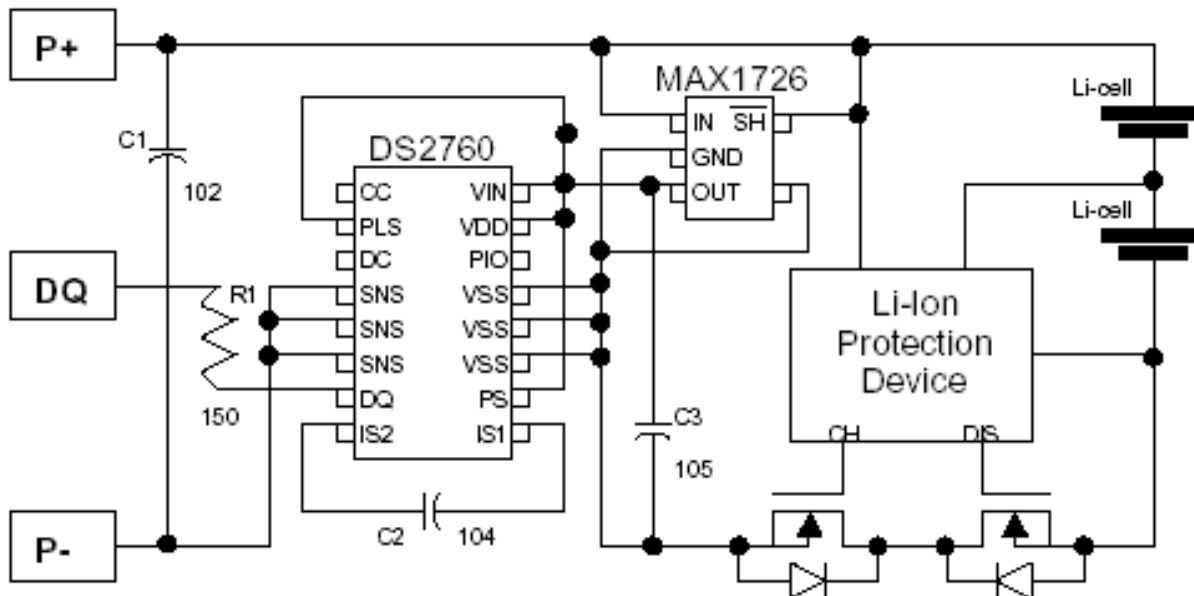

Figure 1. Example Schematic of the DS2760 in a 2-cell Li-Ion/Polymer Battery Pack
The schematic of Figure 1 illustrates a possible use of the DS2760 in a multi-cell application. The passives connected to the DS2760 are necessary for proper filtering and ESD enhancement, as indicated in the DS2760 datasheet. Please refer to the specification of the specific LDO and protector you are using for recommended schematic. The DS2760/LDO must reside on the contact side (as opposed to the cell side) of the protector, as drawn.
With the recommended supply voltage range of the DS2760, the device must be powered (Vdd) by an LDO with an output voltage from 3.0V to 4.0V, such as the Maxim MAX1726EUK33. The schematic in Figure 1 assumes that a DS2760 is being used that contains the internal 25 m Ω current sense resistor. Otherwise, a low impedance external sense resistor would be required between the SNS and VSS nodes of the DS2760. Refer to the DS2760 datasheet on choosing an appropriate external sense resistor for your application. The schematic of Figure 1 is nearly identical to that recommended in the DS2760 datasheet for single-cell applications. The following contains a list of differences to the schematic and recommended device configuration from the datasheet.
1. The integrated protector of the DS2760 must not be used in a multiple cell application. Thus, CC and DC should be left floating. Any multiple-cell standalone protector can be used, supporting either NMOS or PMOS FETs. The standalone protector must be placed on the cell side of the DS2760, as illustrated in Figure 1.
7. Although it was not implemented in the schematic of Figure 1, the Programmable I/O (PIO) pin may be used to sense a logic level or mirror DQ activity (to control a vibrating motor, for example) so long as the I/O specs of the PIO pin are not violated. The absolute max voltage of the PIO pin (with respect to VSS) is +12V.